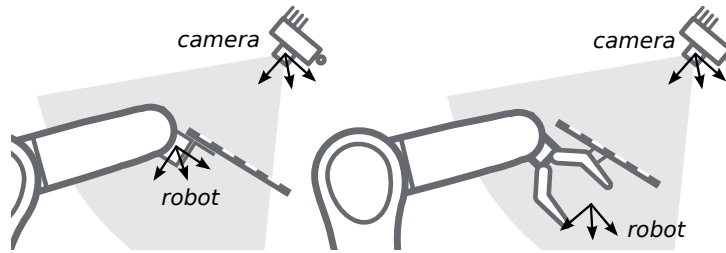

Fig. 6.23: Alternate mounting options for attaching the calibration grid to the robot
**Calibration with a statically-mounted camera** In use cases where the camera is positioned statically w.r.t. the robot, the calibration grid needs to be mounted to the robot as shown for example in Fig. 6.22 and Fig. 6.23.
**Note:** The hand-eye calibration module is completely agnostic about the exact mounting and positioning of the calibration grid w.r.t. the user-defined *robot* frame. That means, the relative positioning of the calibration grid to that frame neither needs to be known, nor it is relevant for the calibration routine, as shown in Fig. 6.23.